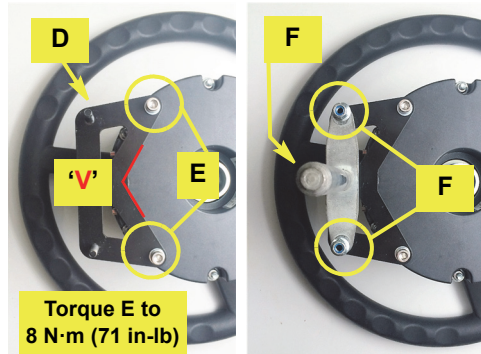

Figure 2: Anti-rotation bracket and ‘T’ bar installed. Comms port/socket is in line with bracket’s ‘V’.
- a. Turn the steering wheel assembly over. Set bracket **D** on the base of **A**, its studs upward and outward (to the left in Figure 2), so that its ‘**V**’ aligns with the center of the comms port/socket. Secure **D** with bolts **E** (with washers); torque **E** to **8 N·m (71 in-lb)** (Figure 2, left image).
- b. Mount the a/r ‘**T**’ bar **F** on the studs of **D** (Figure 2, right image).